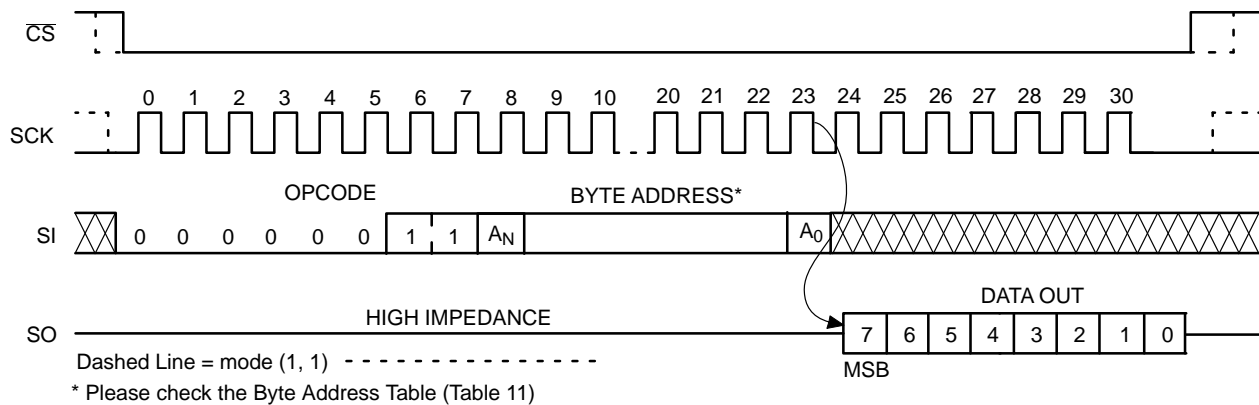

Figure 9. READ Timing
After receiving the last address bit, the NV25256 will respond by shifting out data on the SO pin (as shown in Figure 9). Sequentially stored data can be read out by simply continuing to run the clock. The internal address pointer is automatically incremented to the next higher address as data is shifted out. After reaching the highest memory address, the address counter “rolls over” to the lowest memory address, and the read cycle can be continued indefinitely. The read operation is terminated by taking $\overline{\text{CS}}$ high.
Reading the additional 64-byte Identification Page (IP) is achieved using the same Read command sequence as used for Read from main memory array (Figure 9). **The IPL bit from the Status Register must be set (IPL = 1) before attempting to read from the IP.** The [A5:A0] are the address significant bits that point to the data byte shifted out on the